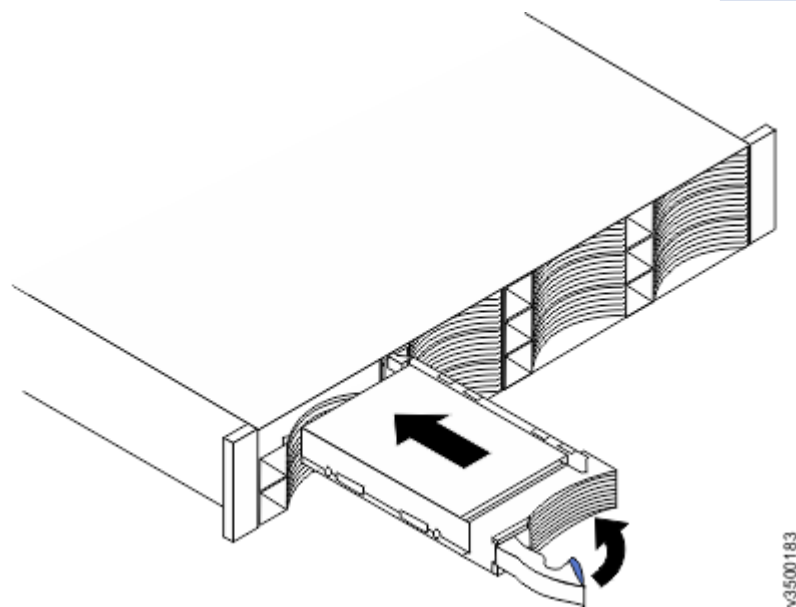

Figure 104. Installing and locking a 3.5-inch drive into its slot
13. Align the drive assembly with the guide rails in the bay (see Figure 104 on page 156).